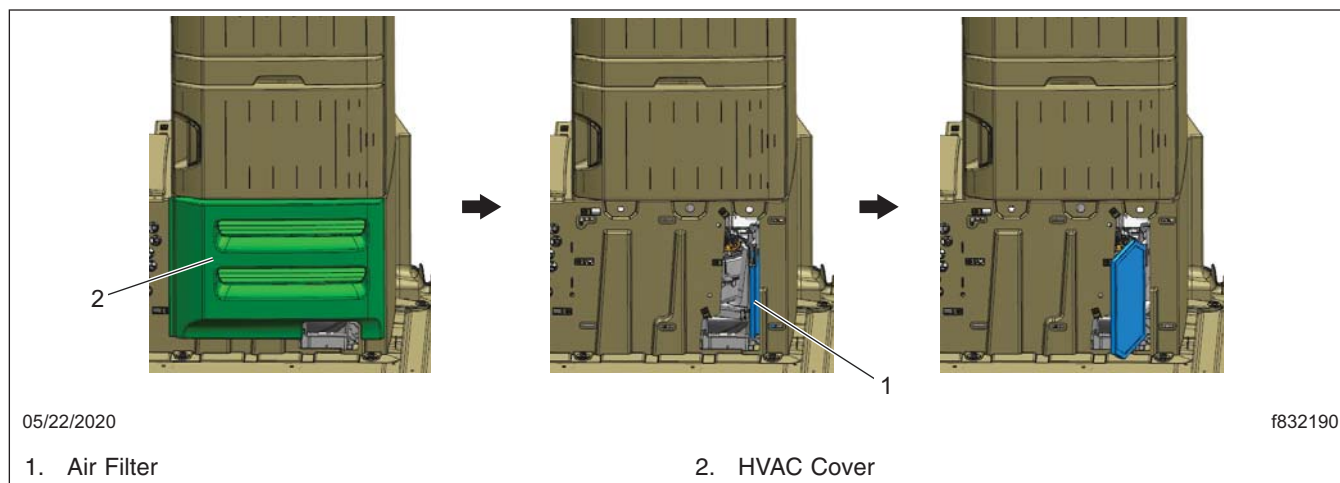
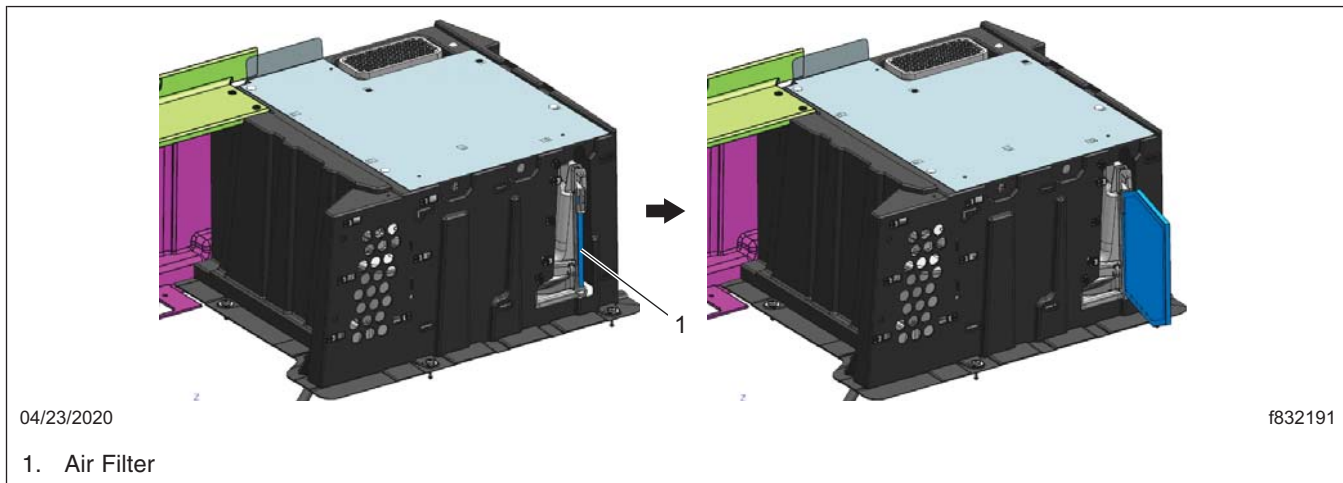
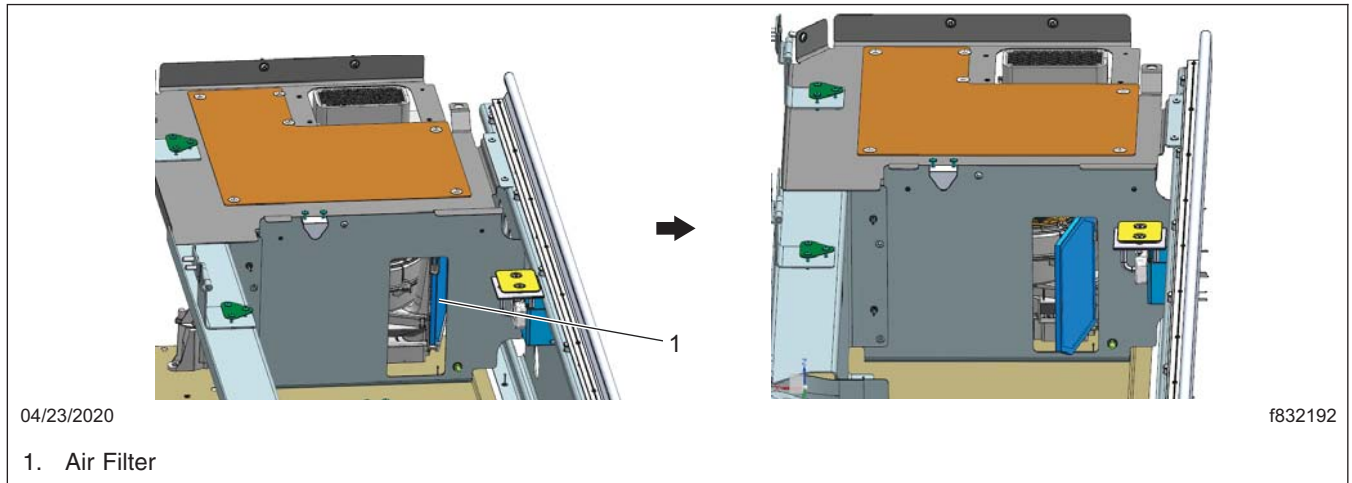

Fig. 8, Removing the Dual HVAC System Filter, 72-inch Sleepers (Similar for 60-inch Sleeper)
Fig. 9, Removing the Dual HVAC System Filter, 48-inch Sleeper
Fig. 11, Removing the Dual HVAC System Filter, 36-inch Sleeper
2. In vehicles with 60-inch and 72-inch sleepers, remove the sleeper HVAC cover on the inboard side of the cabinet. See Fig. 8. The panel is held in place with four spring clips. Pull straight out to remove the HVAC cover.
3. Pull the filter out of the slot. See Fig. 8 for 60- and 72-inch sleepers, or Fig. 9 for 48-inch sleepers, or see Fig. 11 in vehicles with 36-inch sleepers.